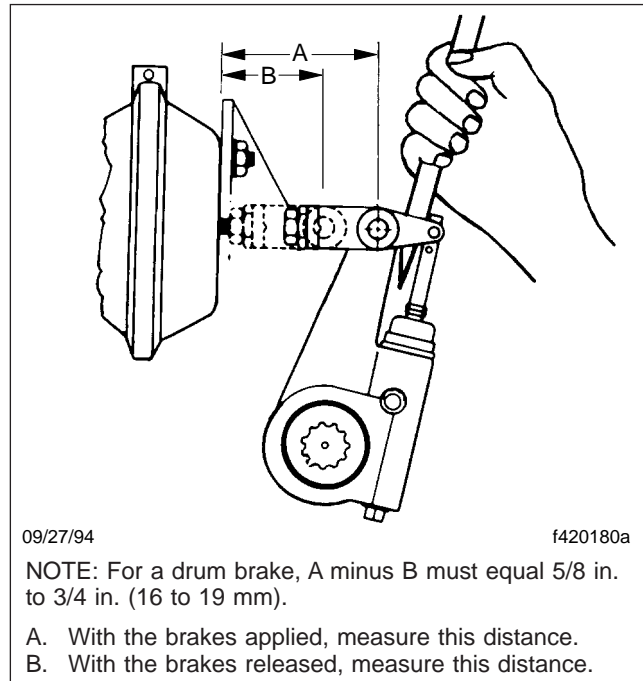

Fig. 2, Measuring Free-Stroke
- 4.1 With the brakes fully released, measure the distance from the bottom of the brake chamber to the center of the large clevis pin. See **Fig. 2**, Ref. A.
- 4.2 Use a pry bar to move the slack adjuster, applying the brakes. Again, measure the distance from the bottom of the brake chamber to the center of the large clevis pin. See **Fig. 2**, Ref. B.
- 5.1 With the brakes fully released, measure the distance from the bottom of the brake chamber to the center of the large clevis pin. See Fig. 2, Ref. A.
- 5.2 Build air pressure to 100 psi (690 kPa). Shut down the engine. Fully apply the brakes, then measure the distance from the bottom of the brake chamber to the center of the large clevis pin. See Fig. 2, Ref. B. The difference between the measurements is the brake chamber stroke.